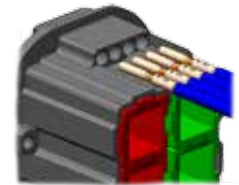

Figure 8
- Insert socket, from the back, into the Powerpole® holder per your configuration. Contacts will snap into place. (See figure 8)